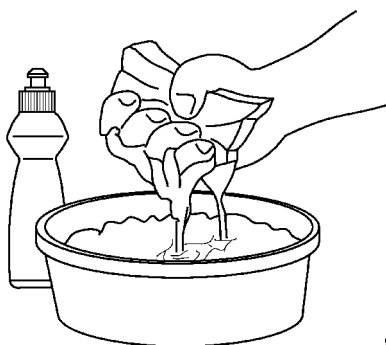

Figure 17
3. Wash the air filter in laundry detergent or kerosene (Fig. 17).